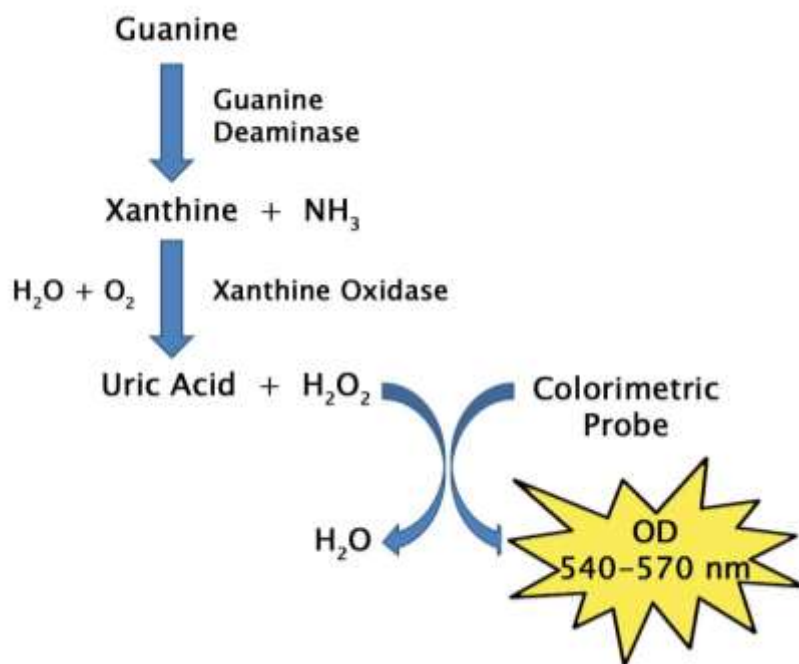

Figure 1. Guanine Assay Principle.
Cell Biolabs' Guanine Assay Kit measures total guanine within biological samples. Guanine is converted into xanthine by guanine deaminase. Then xanthine is converted to uric acid and hydrogen peroxide by xanthine oxidase (XO). The resulting hydrogen peroxide is then detected with a highly specific colorimetric probe. Horseradish peroxidase catalyzes the reaction between the probe and hydrogen peroxide, which bind in a 1:1 ratio. Samples are compared to a known concentration of guanine standard within the 96-well microtiter plate format. Samples and standards are incubated for 15 minutes and then read with a standard 96-well colorimetric plate reader (Figure 1).